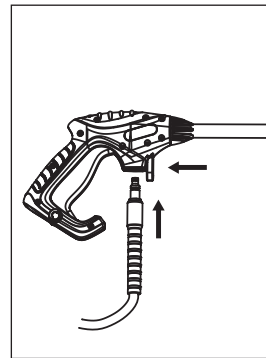

Figure 8 - Attach high pressure hose to gun
6. Attach high pressure hose to gun (See Figure 8).
12. Press easy connect button while inserting quick connect fitting (See Figures 8, 9 & 11).